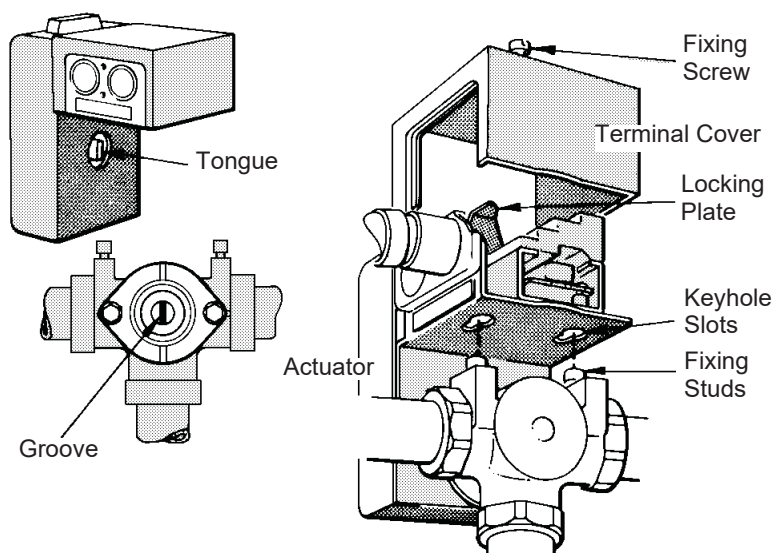

Figure 2
- a. Rotary shoe valves type MB (Fig.2):